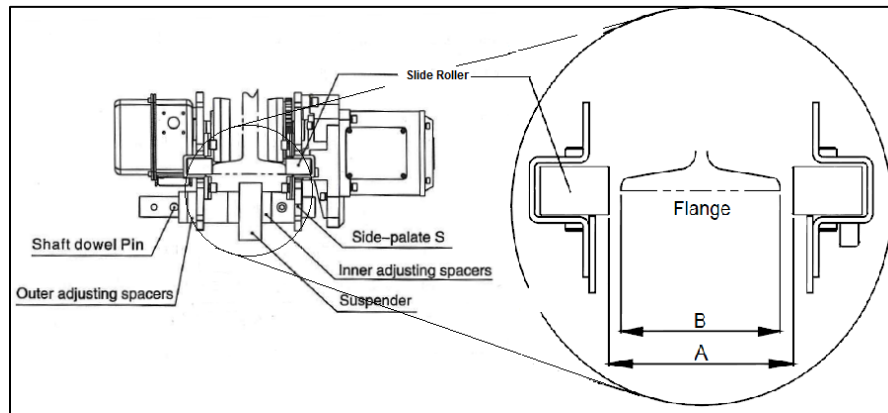

Figure 4.2.1.7
7. Make sure both side plates are spread fully outward and measure dimension "A". Dimension "A" must be 5/32" (4 mm) greater than "B" (refer to Figure 4.2.1.7).